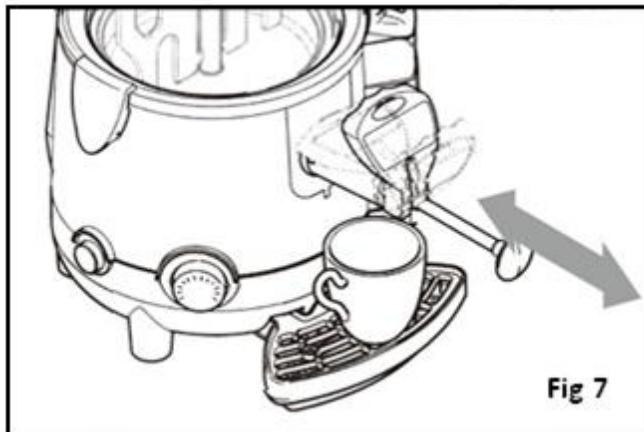

Fig 7
- If the product to be dispensed is especially thick pull the tap Rod out to the maximum position (Fig 7)
- Any clogging in the dispensing line may be removed by sliding the tap rod back and forth (Fig 7)